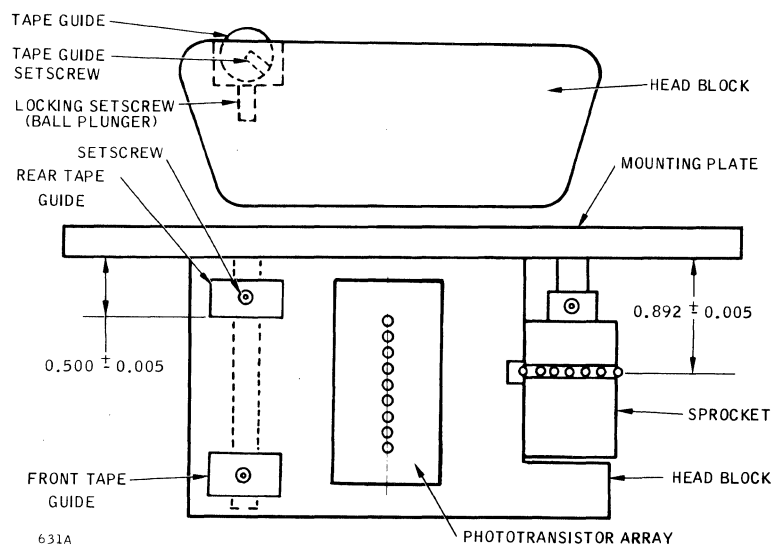

Figure 4-6. Tape Guide Alignment
1. Tape Guide Alignment (figure 4-6)